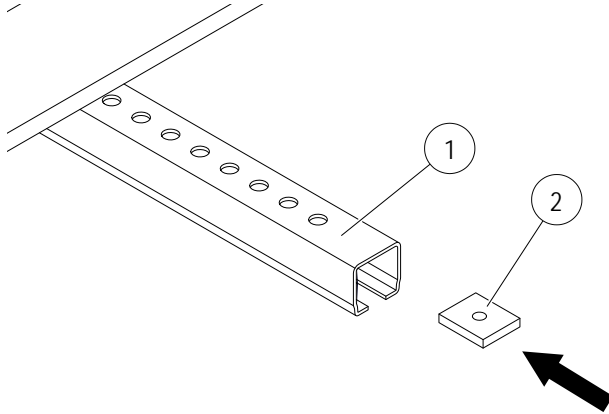

Fig. 26: Slide square nut (Pos. 2) into support arm (Pos. 1)
- Slide the square nut (Pos. 2) into the support arm (see Fig. 26).